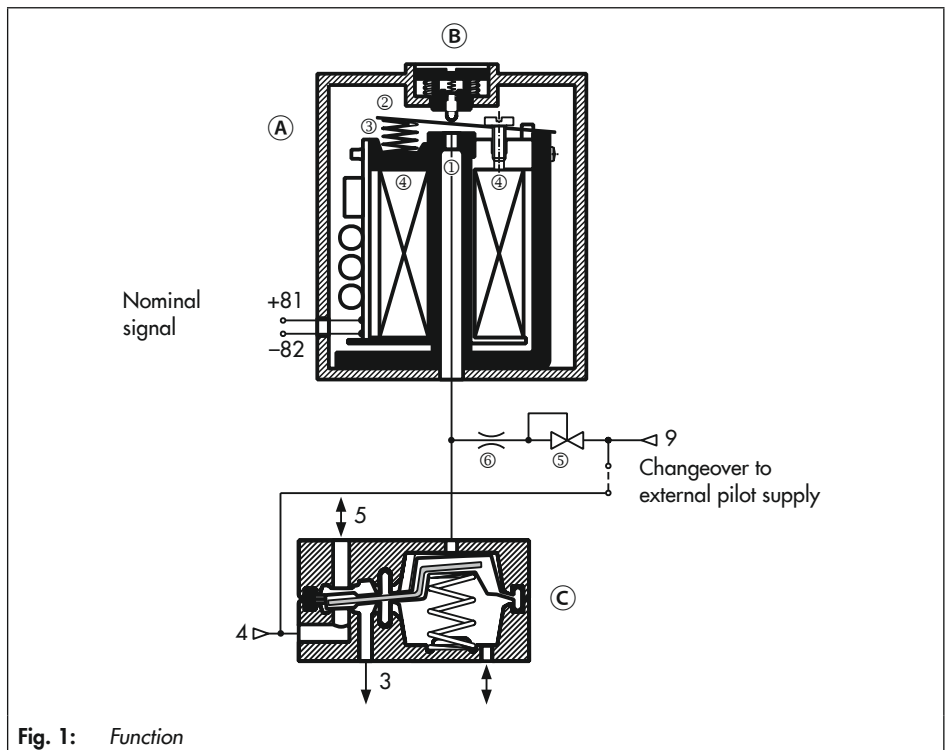

Fig. 1: Function
The solenoid valves consist of an electropneumatic binary converter (A) with (optional) manual override (B) and a booster valve (C) actuated on one side with return spring (Fig. 1).